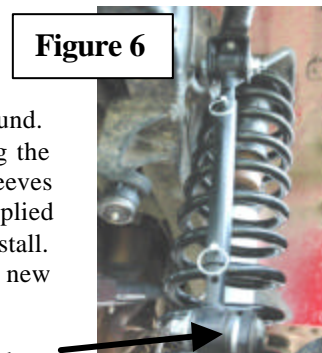

Figure 6
17. Install the sway bar hoop on the sway bar where the stock link was secured, using the supplied 3/8" x 1.25" bolt and flanged lock nut. Install the bushings and 12mm sleeves provided on the bottom of the link at this time and use the factory hardware with supplied thick washer in between the stock mount and new link (for link alignment) and install. Install upper sway bar bushings and the 12mm sleeves. Install the upper part of the new link in the hoop bracket with the 12mm bolts & hardware. **See Figure 6.**